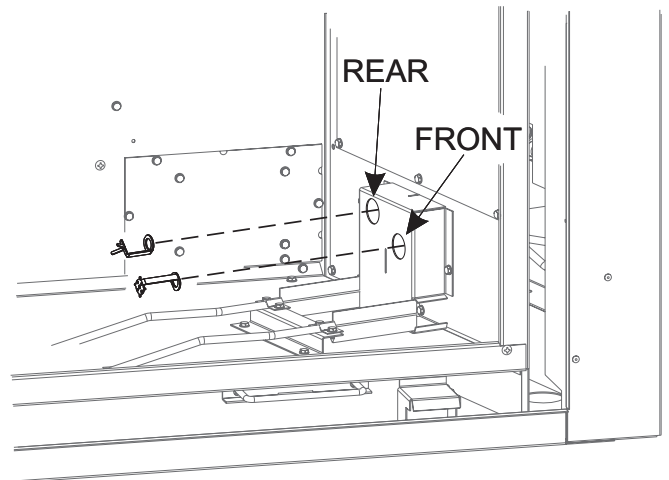

Figure 5
6. Use needle-nose pliers to remove targets and discard. See Figure 5.